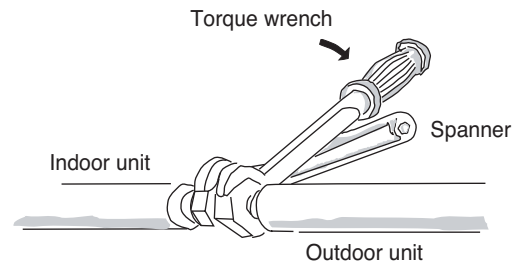

Fig. 30
- Tightly connect the indoor side refrigerant tubing extended from the wall with the outdoor side tubing. (Fig. 30)